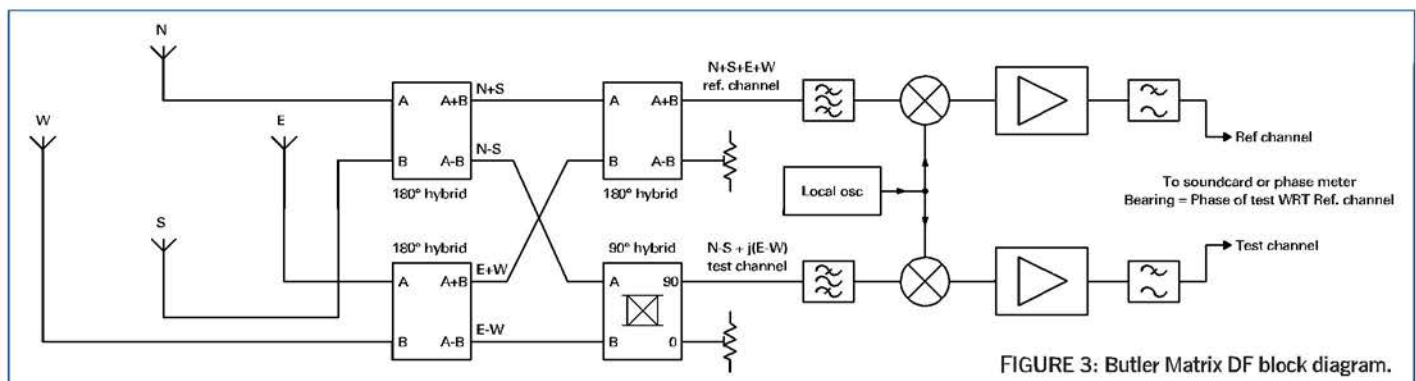

FIGURE 3: Butler Matrix DF block diagram.
**BUTLER MATRIX DF.** This technique allows a bearing to be determined in (potentially) a few microseconds. Multiple DFs can even be performed in parallel over a wide frequency band to allow frequency hopping radios to be found. The same four antenna elements (labelled North, South, East and West) are connected to the RF network and downconverter shown in **Figure 3**. The network is made from passive splitters and 90° hybrids and combines the four antenna inputs to give two RF outputs. One output is the sum of all four elements, exactly as if it was a single element in the middle of the circle and is termed the reference channel. The second output is a signal of similar